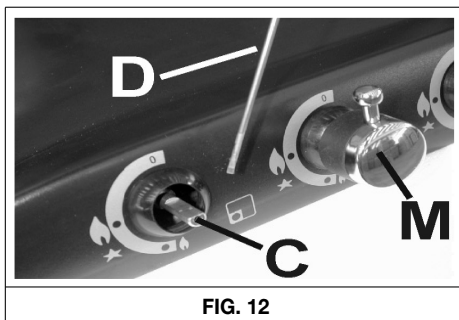

FIG. 12
- Pull off the control knob "M" (fig. 12).
- Insert a small screwdriver "D" into the hole "C" (fig. 12) and turn the throttle screw to the right or left to adjust the reduced rate. Check that the flame does not go out when the knob is sharply turned from the "Full on" to the "Reduced rate" position.